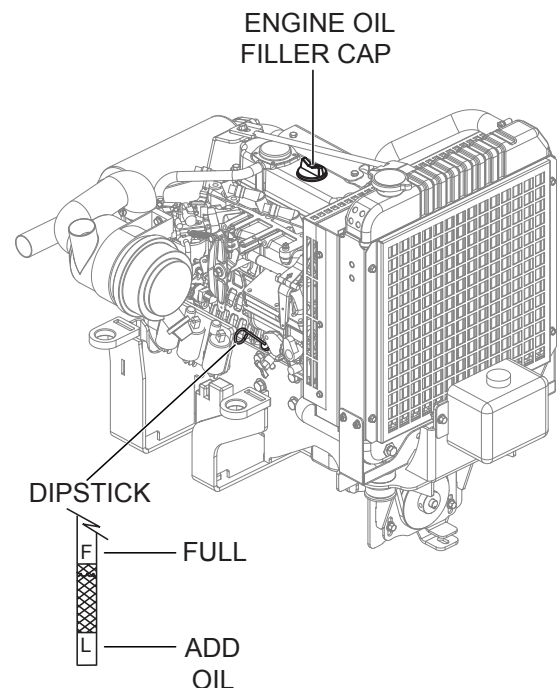

Figure 11. Engine Oil Check And Fill
2. Pull the engine oil dipstick from its holder (Figure 11).